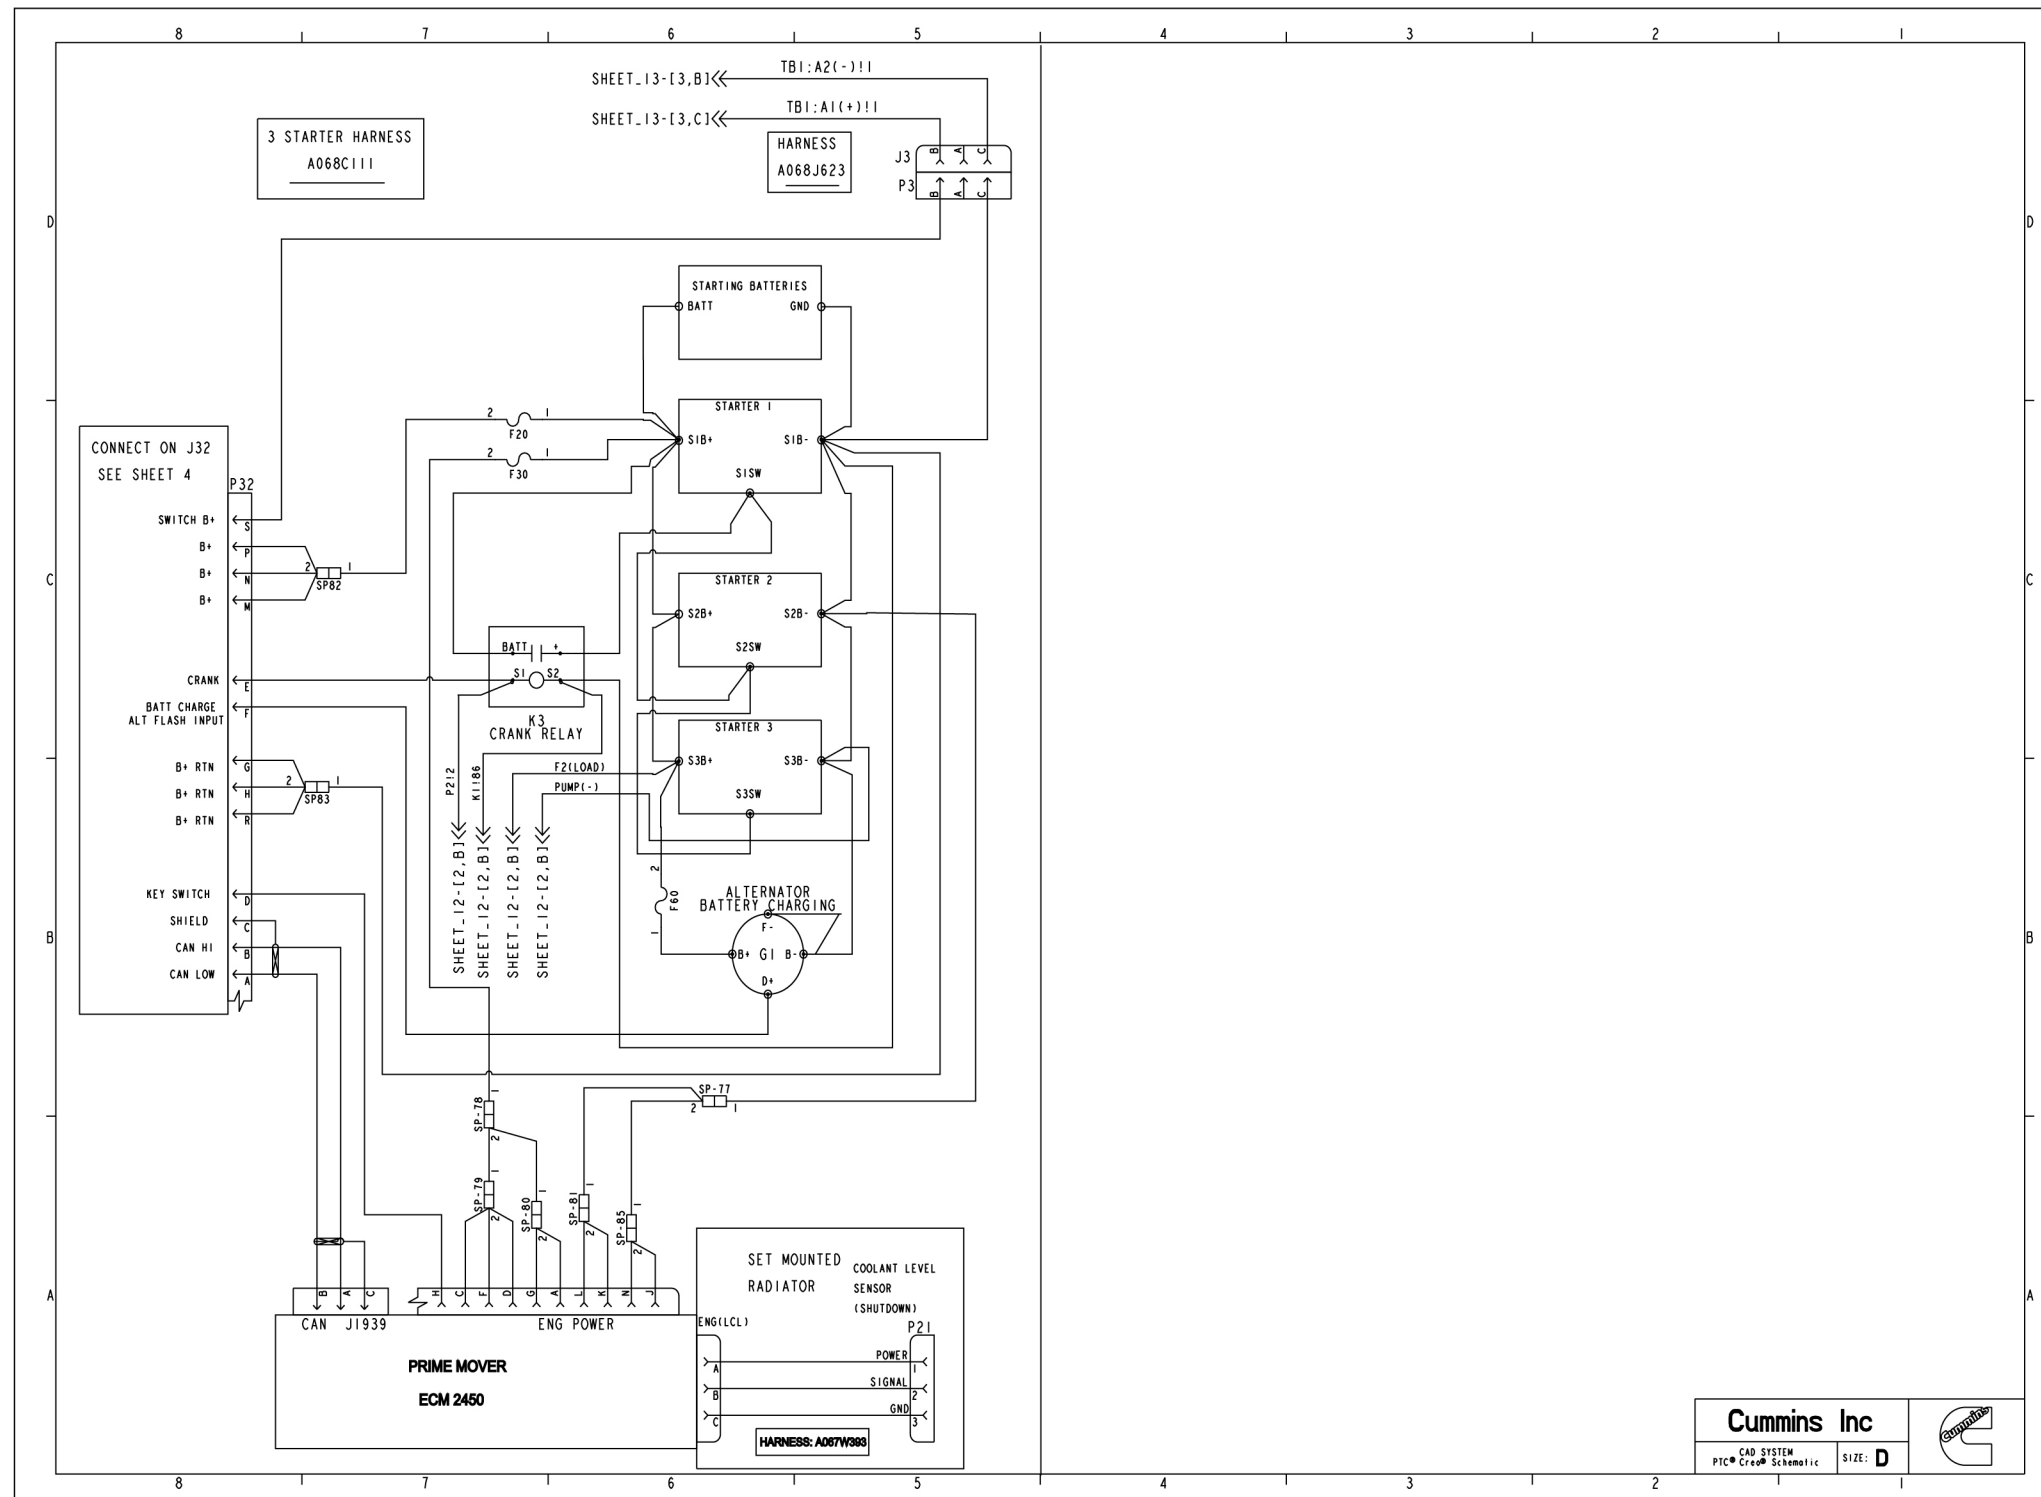

FIGURE 89. WIRING SCHEMATIC (SHEET 5)
- Figure 89. Wiring Schematic (Sheet 5) 393